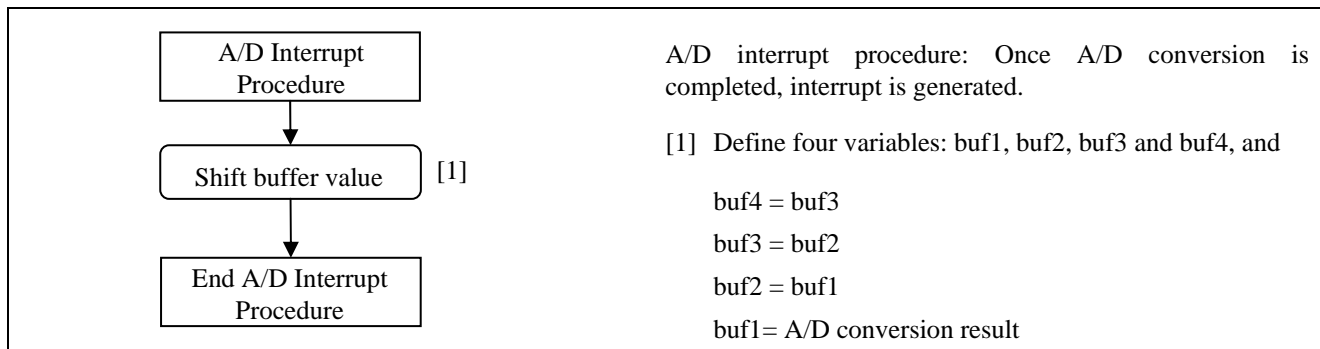

Figure 2-3 Procedure of Saving A/D Conversion Result
- [4] Read speed command after A/D conversion is completed, which value is averaged by the sum of 4 buffer values, see Figure 2-3. Besides, read switch value to control motor spinning direction. Speed command can be operated only in motor status as ACTIVATED.